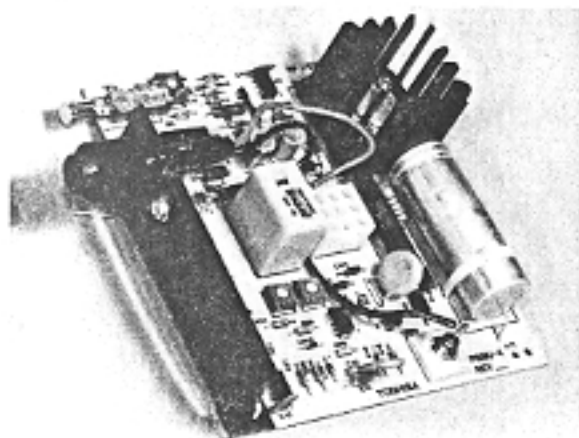

FIGURE 8
02.01 The power battery back-up unit (PBBU) in Figure 8 is an optional PCB which may be installed in the MPSA-200 to interface with two auxiliary 12-VDC batteries. In the event of an electrical power failure, the PBBU provides an automatic battery power source, permitting a typical STRATA VI system to continue normal operations for some time (in direct ratio with the type and size of the batteries chosen).
- The "Battery Override" switch (Figures 8 and 9) is placed in the ON position, or...